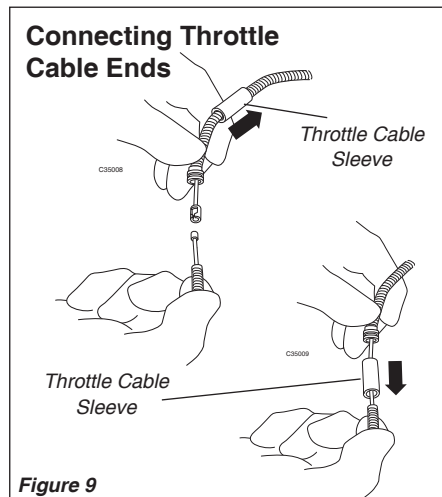

Figure 9
4. Connect the powerhead throttle cable to the throttle cable from the handlebar. See Figure 9.
5. Center the throttle cable sleeve over the connected cable ends and place the assembly in the throttle cable connector. See Figures 9 and 10.